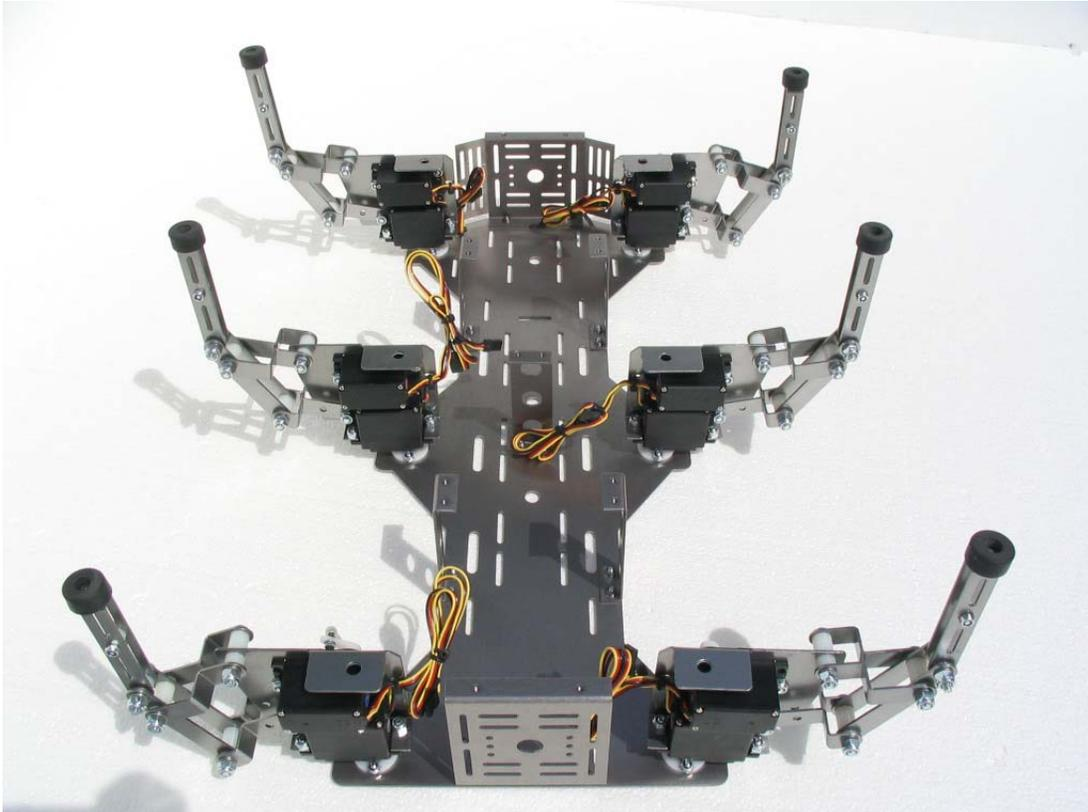

Figure 37: Completed Upper Deck Assembly
6. Repeat steps 3 through 5 for the remaining (5) legs in your kit. Once all of the legs have been installed, your HexCrawler should appear like Figure 37.